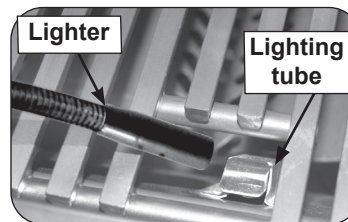
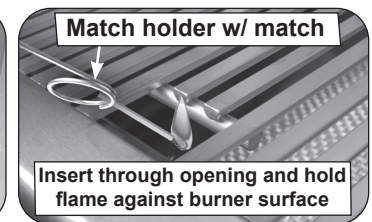

Fig. 27-2 Manual lighting via lighting tube
Fig. 27-3 Manual lighting via match holder
**CAUTION:** Always wait five (5) minutes for gas to clear after any unsuccessful lighting attempt.
2. Insert either a burning long-barrel butane lighter or a burning long-stem match through the cooking grid opening to the top of the lighting tube (see Fig. 27-2). For backburners or infrared burners, hold the flame against the surface of the backburner/infrared burner. For side burners, hold the flame against the burner. Grills equipped with an infrared burner include a wire extension match holder (attached to drip tray) to assist with manual lighting (see Fig. 27-3).
4. If the burner does not light within five (5) seconds of turning the control knob, **immediately depress the knob and turn the valve to OFF**. **WAIT FIVE (5) MINUTES** before repeating steps 2 through 4 of the **MANUAL LIGHTING** instructions.